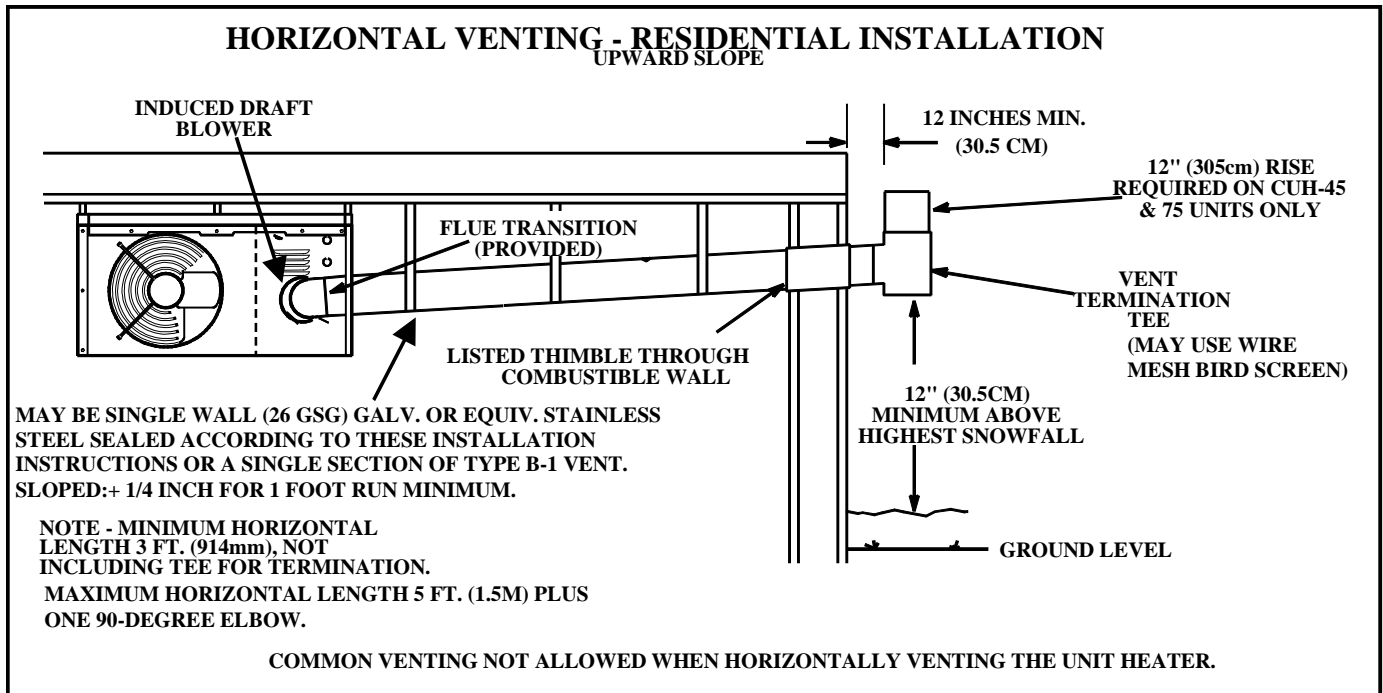

FIGURE 6
- 1- For horizontal residential installations these units are certified as Category I appliances. The vent may be single wall material minimum 25 GSG (0.46 mm) galvanized steel or equivalent grade stainless steel or a single section of type B-1 vent installed according to the sections **Venting A - General Recommendations and Requirements** and **C - Horizontal Venting General** and **E - Horizontal Venting - Residential**. Refer to Figure 6.
- 5- 45 & 75 units must terminate with a 12" (300 mm) vertical rise at the tee termination. Refer to Figure 6.